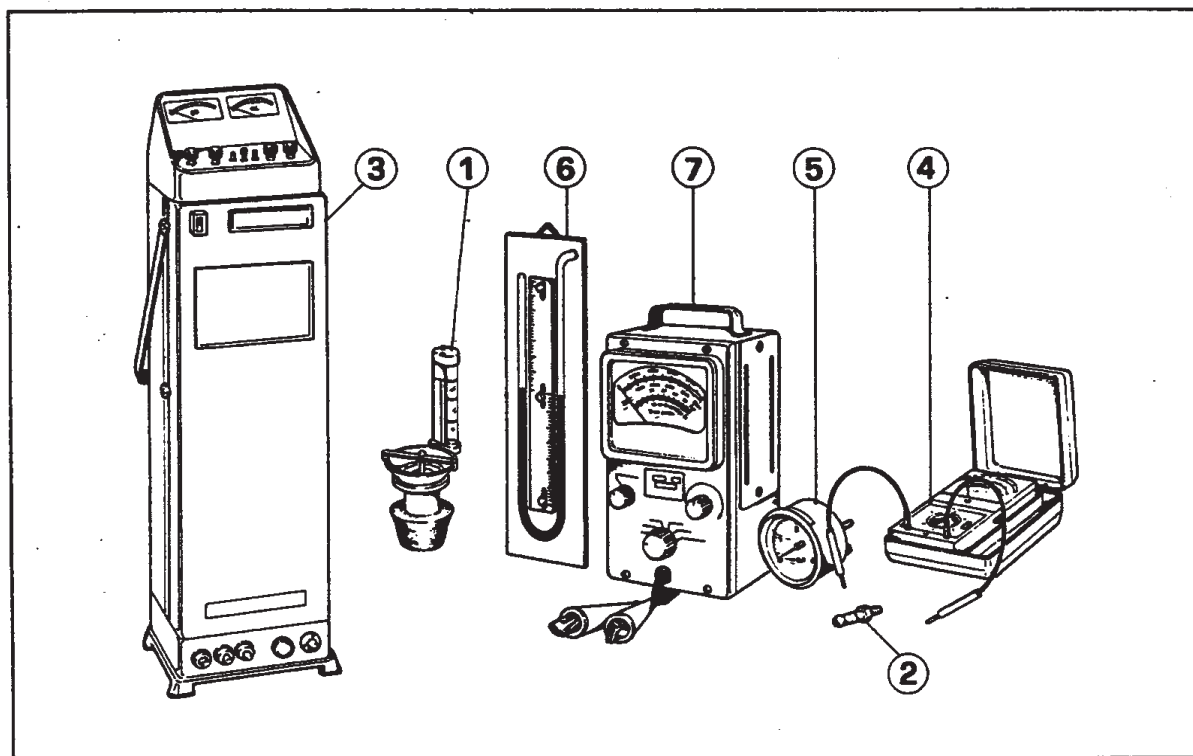

Fig. 3 - SPECIAL TOOLS.
- c - Unscrew bolts of pipes fitted on every exhaust manifold corresponding to each cylinder and screw on the rear exhaust manifold the extension pipes for CO/HC analysis that are in the tool-kit. Screw in every extension pipe a short line for CO probes (see fig. 3).